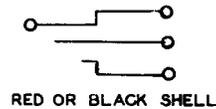

Fig. 4—378A Plug
2.04 378A: The 378A (A&M Only) (Fig. 4) is a 3-conductor plug that is used with the 112- or similar-type jacks.